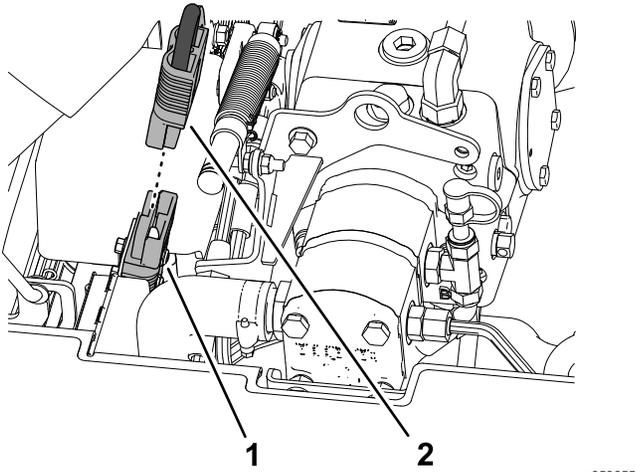

Figure 33
1. Apply dielectric grease to the contact surfaces of the battery disconnect jumper (Figure 33).